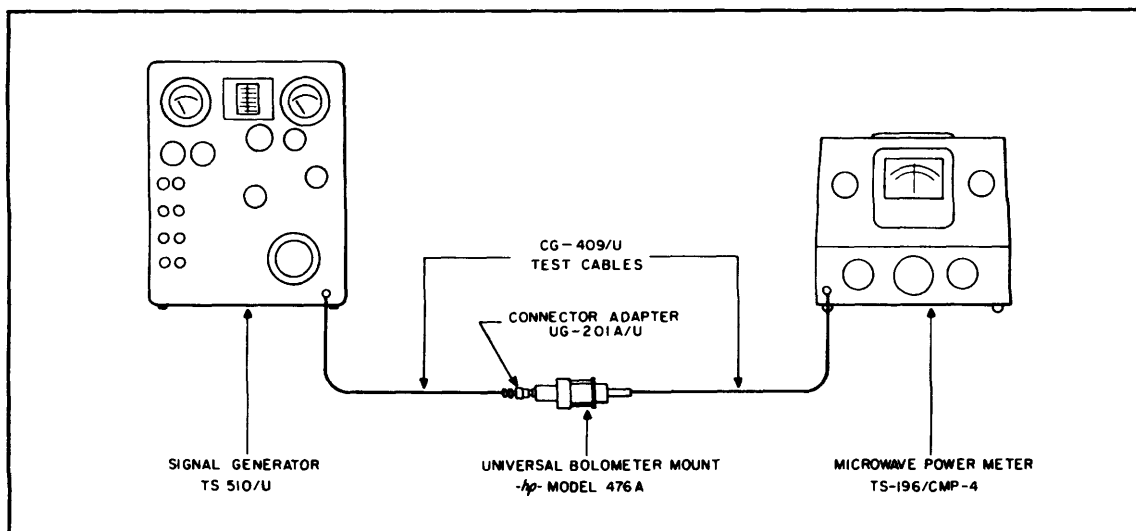

Figure 6-7. Test Set-Up for Calibrating the R-F Output Attenuator Dial
f. Connect power meter TS-196/CMP-4 or equivalent through a bolometer mount such as the Hewlett-Packard Co. Model 476A to the RF OUTPUT jack as shown in Figure 6-7.
monitor detector circuit will also affect the frequency response of the power monitor which must then be checked and, if necessary, readjusted. To calibrate the OUTPUT VOLTS meter refer to Figure 6-7 and proceed as follows:
b. Connect a power meter and bolometer mount to the RF OUTPUT jack as shown in Figure 6-7.